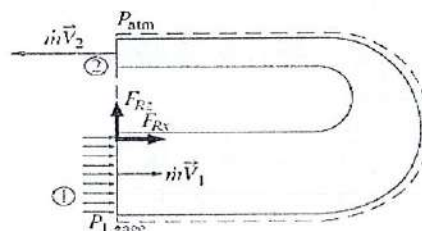

Figure 5 / Rajah 5
- b) A reversing elbow as shown in **Figure 5** makes the fluid a 180° U-turn before it is discharged water at flow rate of 14 kg/s into the atmosphere. The cross-sectional area of the elbow is 113 cm² at the inlet and 7 cm² at the outlet. The elevation difference between the centers of the outlet and the inlet is 30 cm. The weight of the elbow and the water in it is considered to be neglected. Determine: